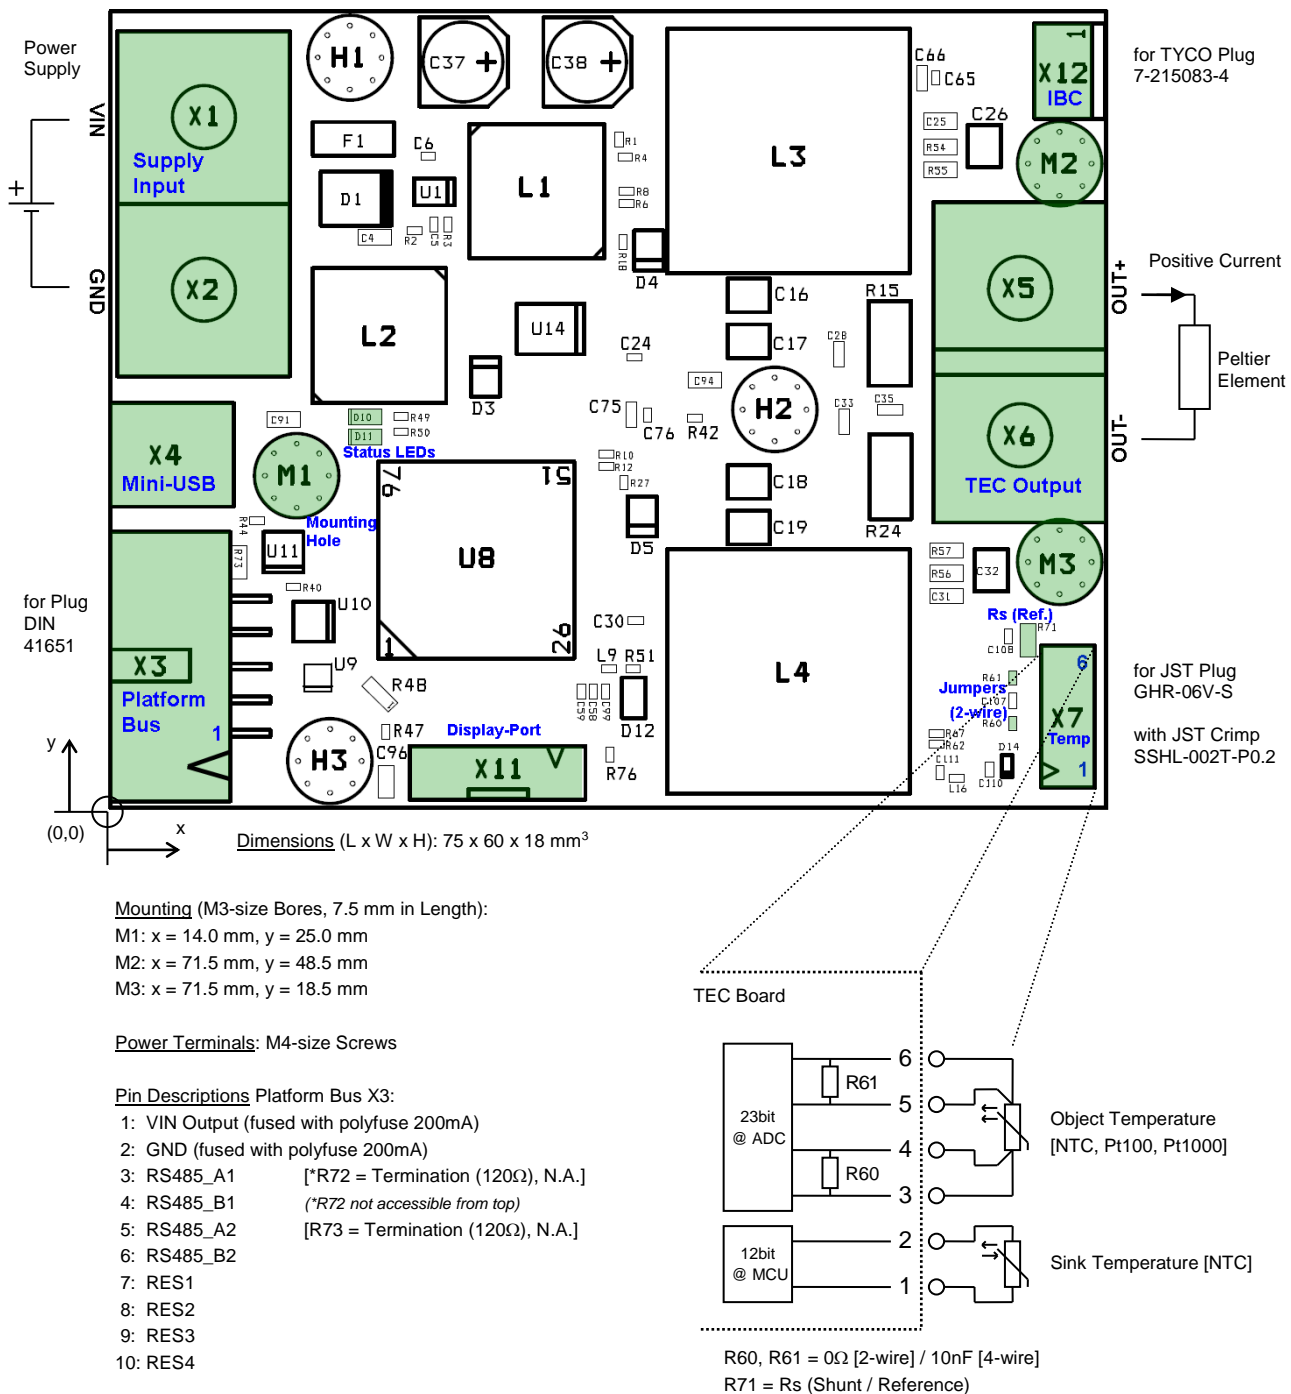
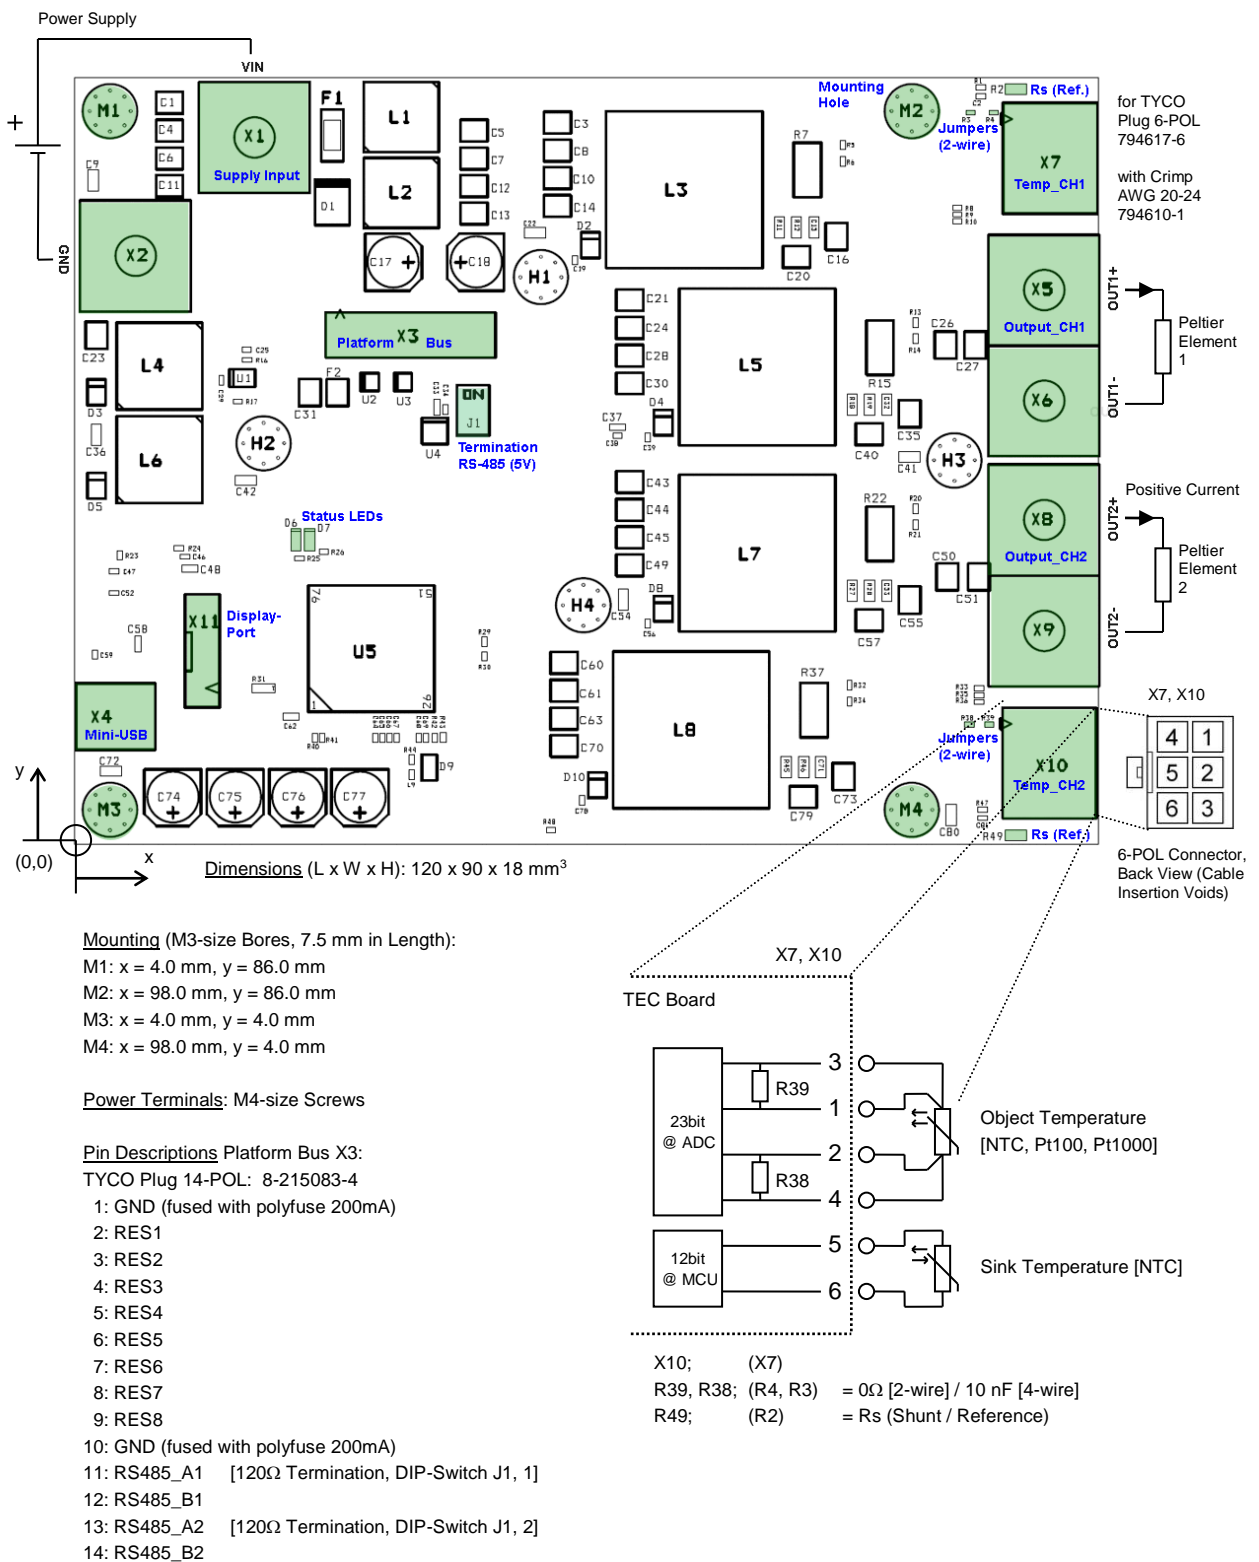

Figure 2. Schematic top view of a TEC-1089-based single-channel TEC controller.
Figure 3. Schematic top view of a TEC-1122-based dual-channel TEC controller. Elements relevant to the end-user are highlighted.
- Locate the four mounting holes M1-M4 (TEC-1091-based: see Figure 1, TEC-1089-based: see Figure 2, TEC-1122-based: see Figure 3)
- Either the green or the red status LED (see Figure 1, Figure 2 or Figure 3) should be blinking / lit